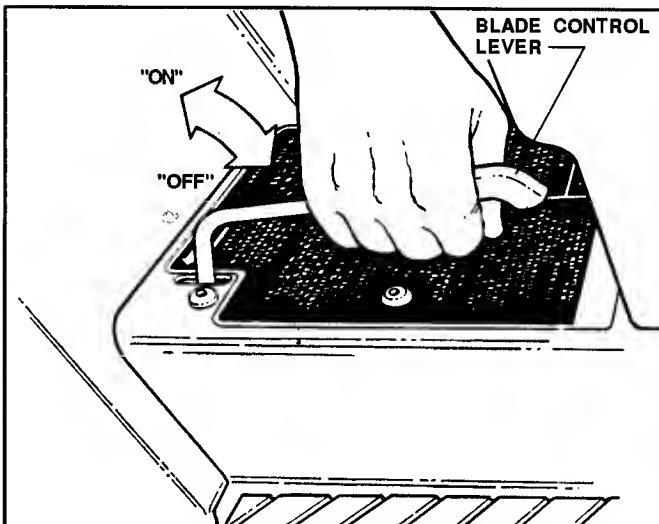

FIGURE 4
MOWER BLADE: STOP MOWER BLADE by pushing BLADE CONTROL lever downward to "OFF". See Figure 4.
- PUSH BLADE CONTROL LEVER downward to "OFF" position (Fig. 4) and fully depress the CLUTCH/BRAKE PEDAL (Fig. 7), so that Safety Interlock System will allow engine to start.